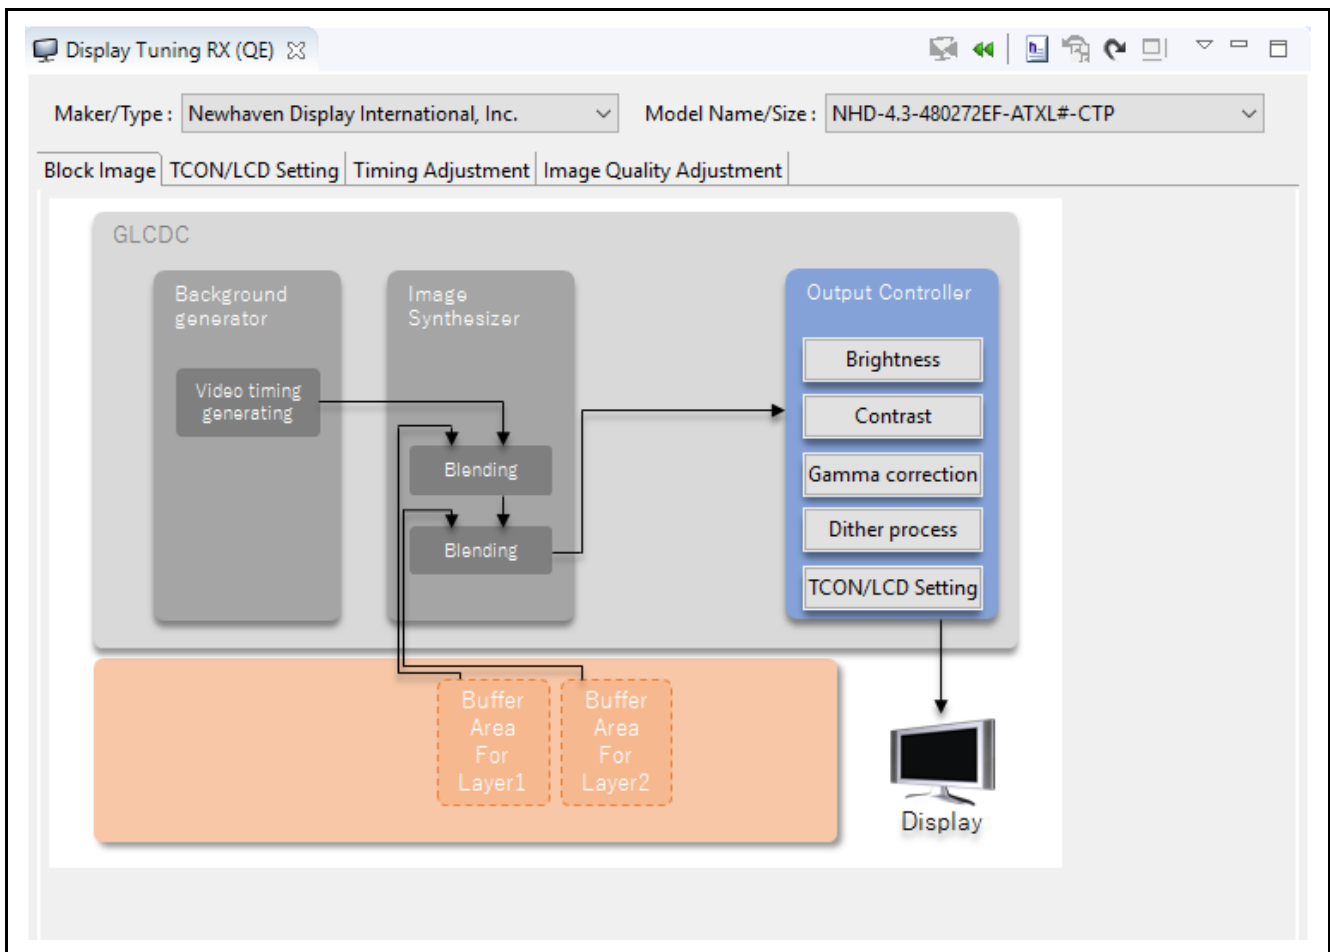

Figure 8-1 Initial State of QE for Display [RX]
Selecting [Renesas Views] -> [Renesas QE] -> [Display Tuning RX (QE)] from the menu of the e2 studio starts QE for Display [RX] (Figure 8-1).
Figure 8-1 is the display of a block diagram of the hardware of the GLCDC, showing the path for the output of image data and the relationships between the positions where images are to be corrected. Clicking on [Brightness] or [Contrast] for the adjustment of image quality produces the [Image Quality Adjustment] tabbed page, which allows various adjustments.